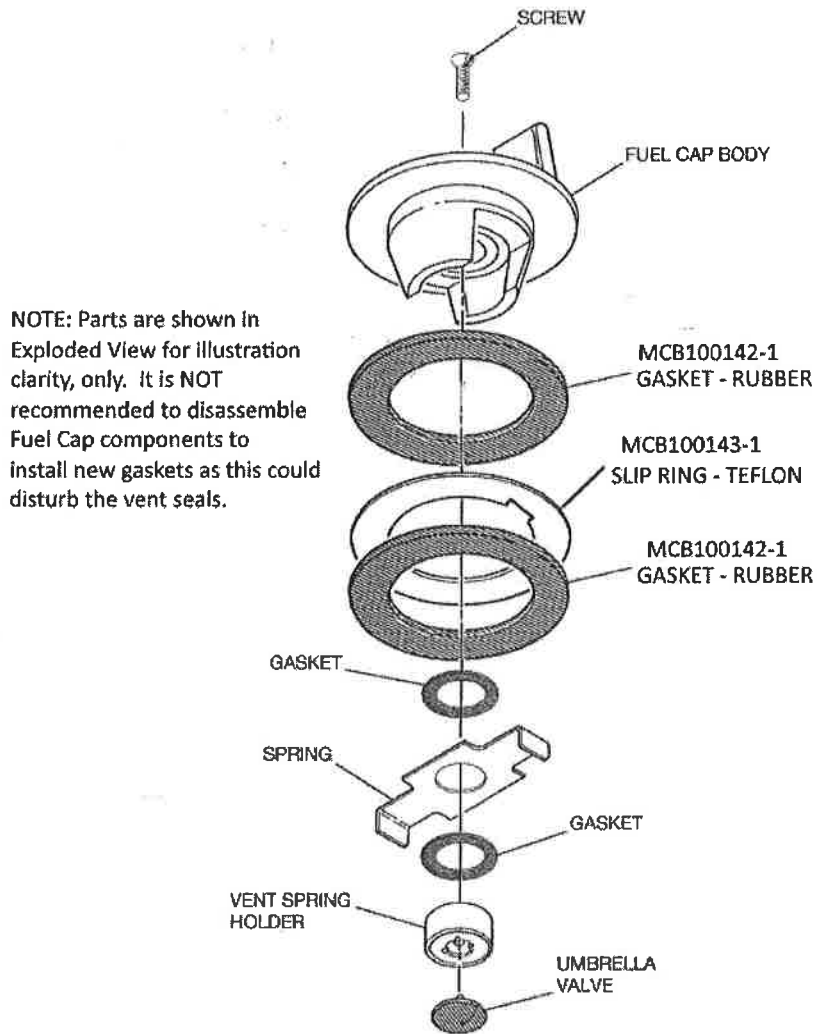

FIGURE 3 – Exploded View of Cessna Fuel Cap Assembly P/N C156003-0101 w/McFarlane Gaskets and Slip Ring
- Assemble McFarlane Replacement Gaskets (Qty 2) and Slip Ring (Qty 1) in the arrangement shown in Figure 3